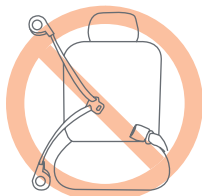

Fig. 15-2
- **DO NOT** use a lap/shoulder belt system if the lap belt and shoulder belt each have retractors at one end. This type of seat belt system will not adequately restrain the Safety Seat (Fig. 15-2).